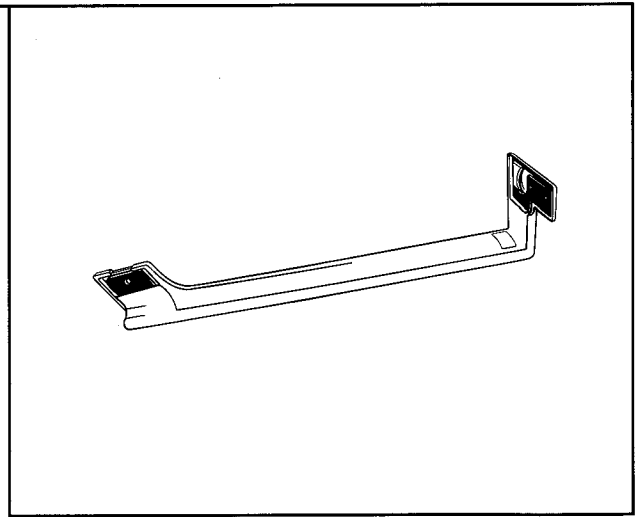

Figure 46
- d. Insert nameplate back into handle pad, then rebend tabs to lock nameplate in place. See Figure 46.